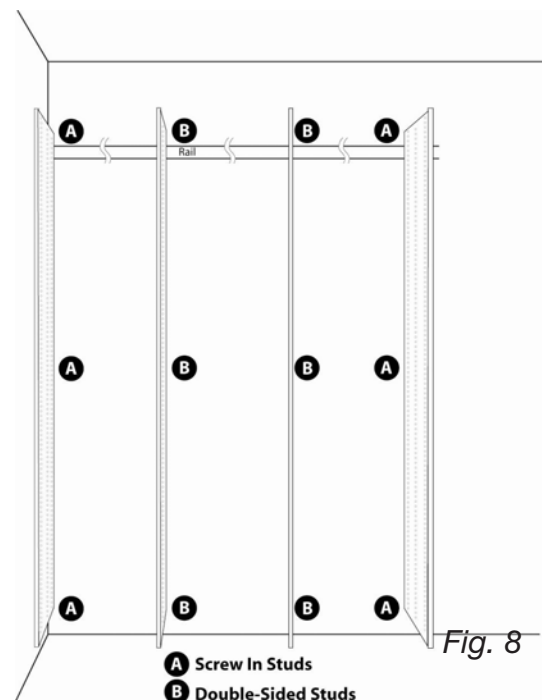

Fig. 8
10. Fasten all slip-in studs, screw-in-studs and double-sided studs into the system holes for the fixed cam shelves, until the stop ring is snug with the panel face. (See Fig. 8.)